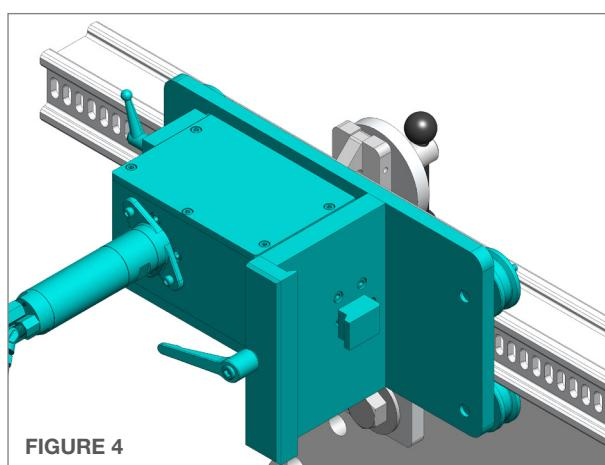

FIGURE 4
4. Loosen the **Quick Adjust Handle** and pull the gearbox away from the carriage plate. This will allow the **Horizontal Drive Carriage** to slide onto the rail without pneumatic power, to rotate the drive. Center the carriage on the top rail and push the gearbox back toward the carriage plate. This will engage the gear into the rail slots. Verify the gear is engaging the slots correctly and tighten the quick adjust handle. (**Figure 4**)